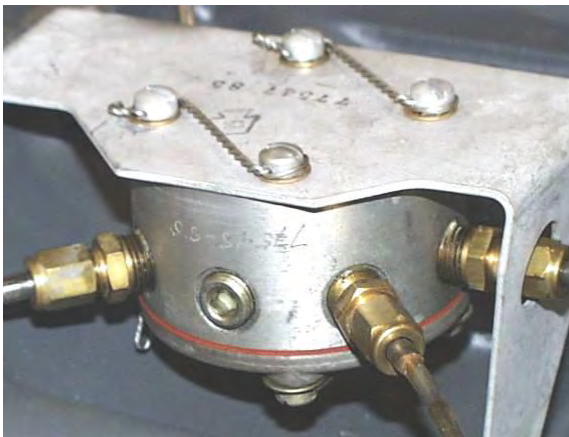
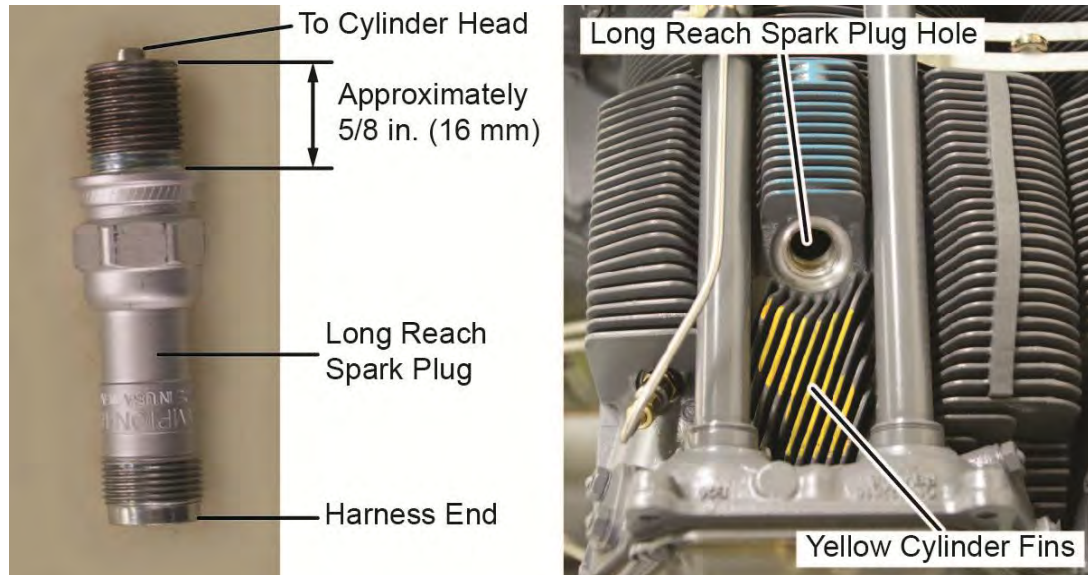
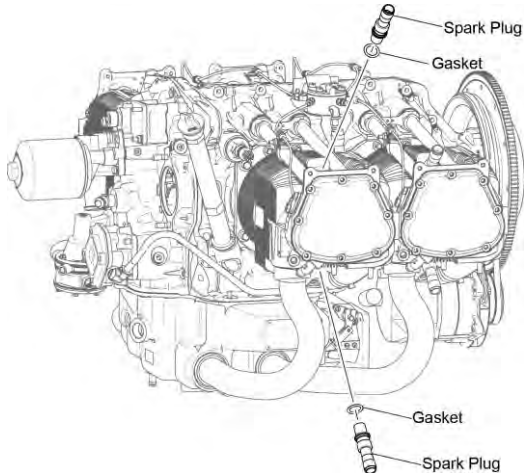

Figure 12A
Figure 1
Figure 2
- (1) Put a fuel collection container under the fuel manifold.
- (2) Identify the fuel line ports on the fuel manifold (Figure 1).
- (3) Apply a label and disconnect all fuel lines attached to the fuel manifold.
- (4) Let fuel drain out of the fuel manifold and fuel lines into the collection container.
- (5) Remove the safety wire/cable from hardware fasteners on the brackets on the fuel manifold (Figures 12A thru 12D).
- (6) Remove the bolts, screws, lock washers, bracket, and the fuel manifold from the fuel injector (Figure 1). Discard the lock washers.
- (7) Remove the fuel collection container.
NOTICE: There are different fuel manifold configurations. Figures 12A thru 12D are examples of the fuel manifold configurations. Your configuration can be different. Be sure to safety wire the hardware fasteners on the fuel manifold and bracket.
- (1) Install the fuel manifold and the bracket (Figure 1) on the fuel injector with the hardware fasteners. Torque the bolts and screws on the bracket to 25 to 30 in.-lbs (2 to 3 Nm).
- (2) Safety wire/cable the bolts and screws on the bracket as shown in Figures 12A to 12D.
- (3) Attach all fuel fittings with fuel line to the corresponding identified ports on the fuel manifold.
- (4) Torque the fuel line fittings in accordance with the latest revision of the ***Service Table of Limits - SSP-1776***.
- (5) During the “Operational Ground Check” in Chapter 72-00 (which is to be done after all maintenance is complete), look for fuel leaks at the fuel lines and connections during engine operation. Identify and correct the cause of any fuel leak. There must not be any fuel leak when the engine is returned to service.
Two long reach spark plugs (Figure 1) are installed on each cylinder head (Figure 2) of the engine for a total of eight spark plugs per engine.
NOTICE: Typically engines with long reach spark plugs are identified by yellow paint on the cylinder fins between the spark plug hole and the rocker covers where shown in Figure 1.
- E. Use the applicable sized socket on top of the spark plug and turn the socket to remove the spark plug from the engine cylinder head (Figure 2).
- G. Remove and discard the gasket from the spark plug (Figure 2).